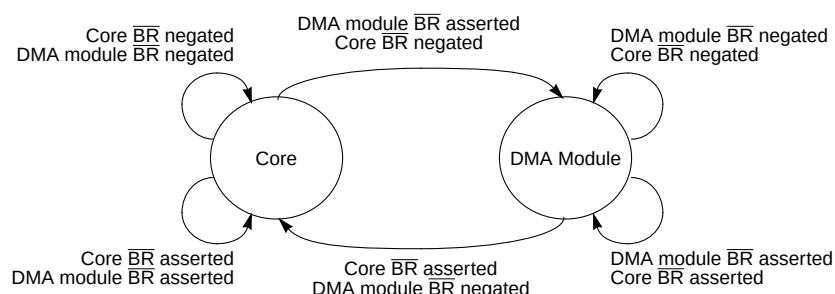

Figure 6-13. Park on Current Master Priority (PARK = 01)
- Park on current master priority (PARK = 11)—The current bus master retains mastership as long as it needs the bus. The other device can become the bus master only when the bus is idle. For example, if the core is bus master out of reset, it retains mastership as long as it needs the bus. It loses mastership only when it negates its bus request signal and the DMA asserts its internal bus request signal. At this point the DMA module is the bus master, and retains bus mastership as long as it needs the bus. See Figure 6-13.